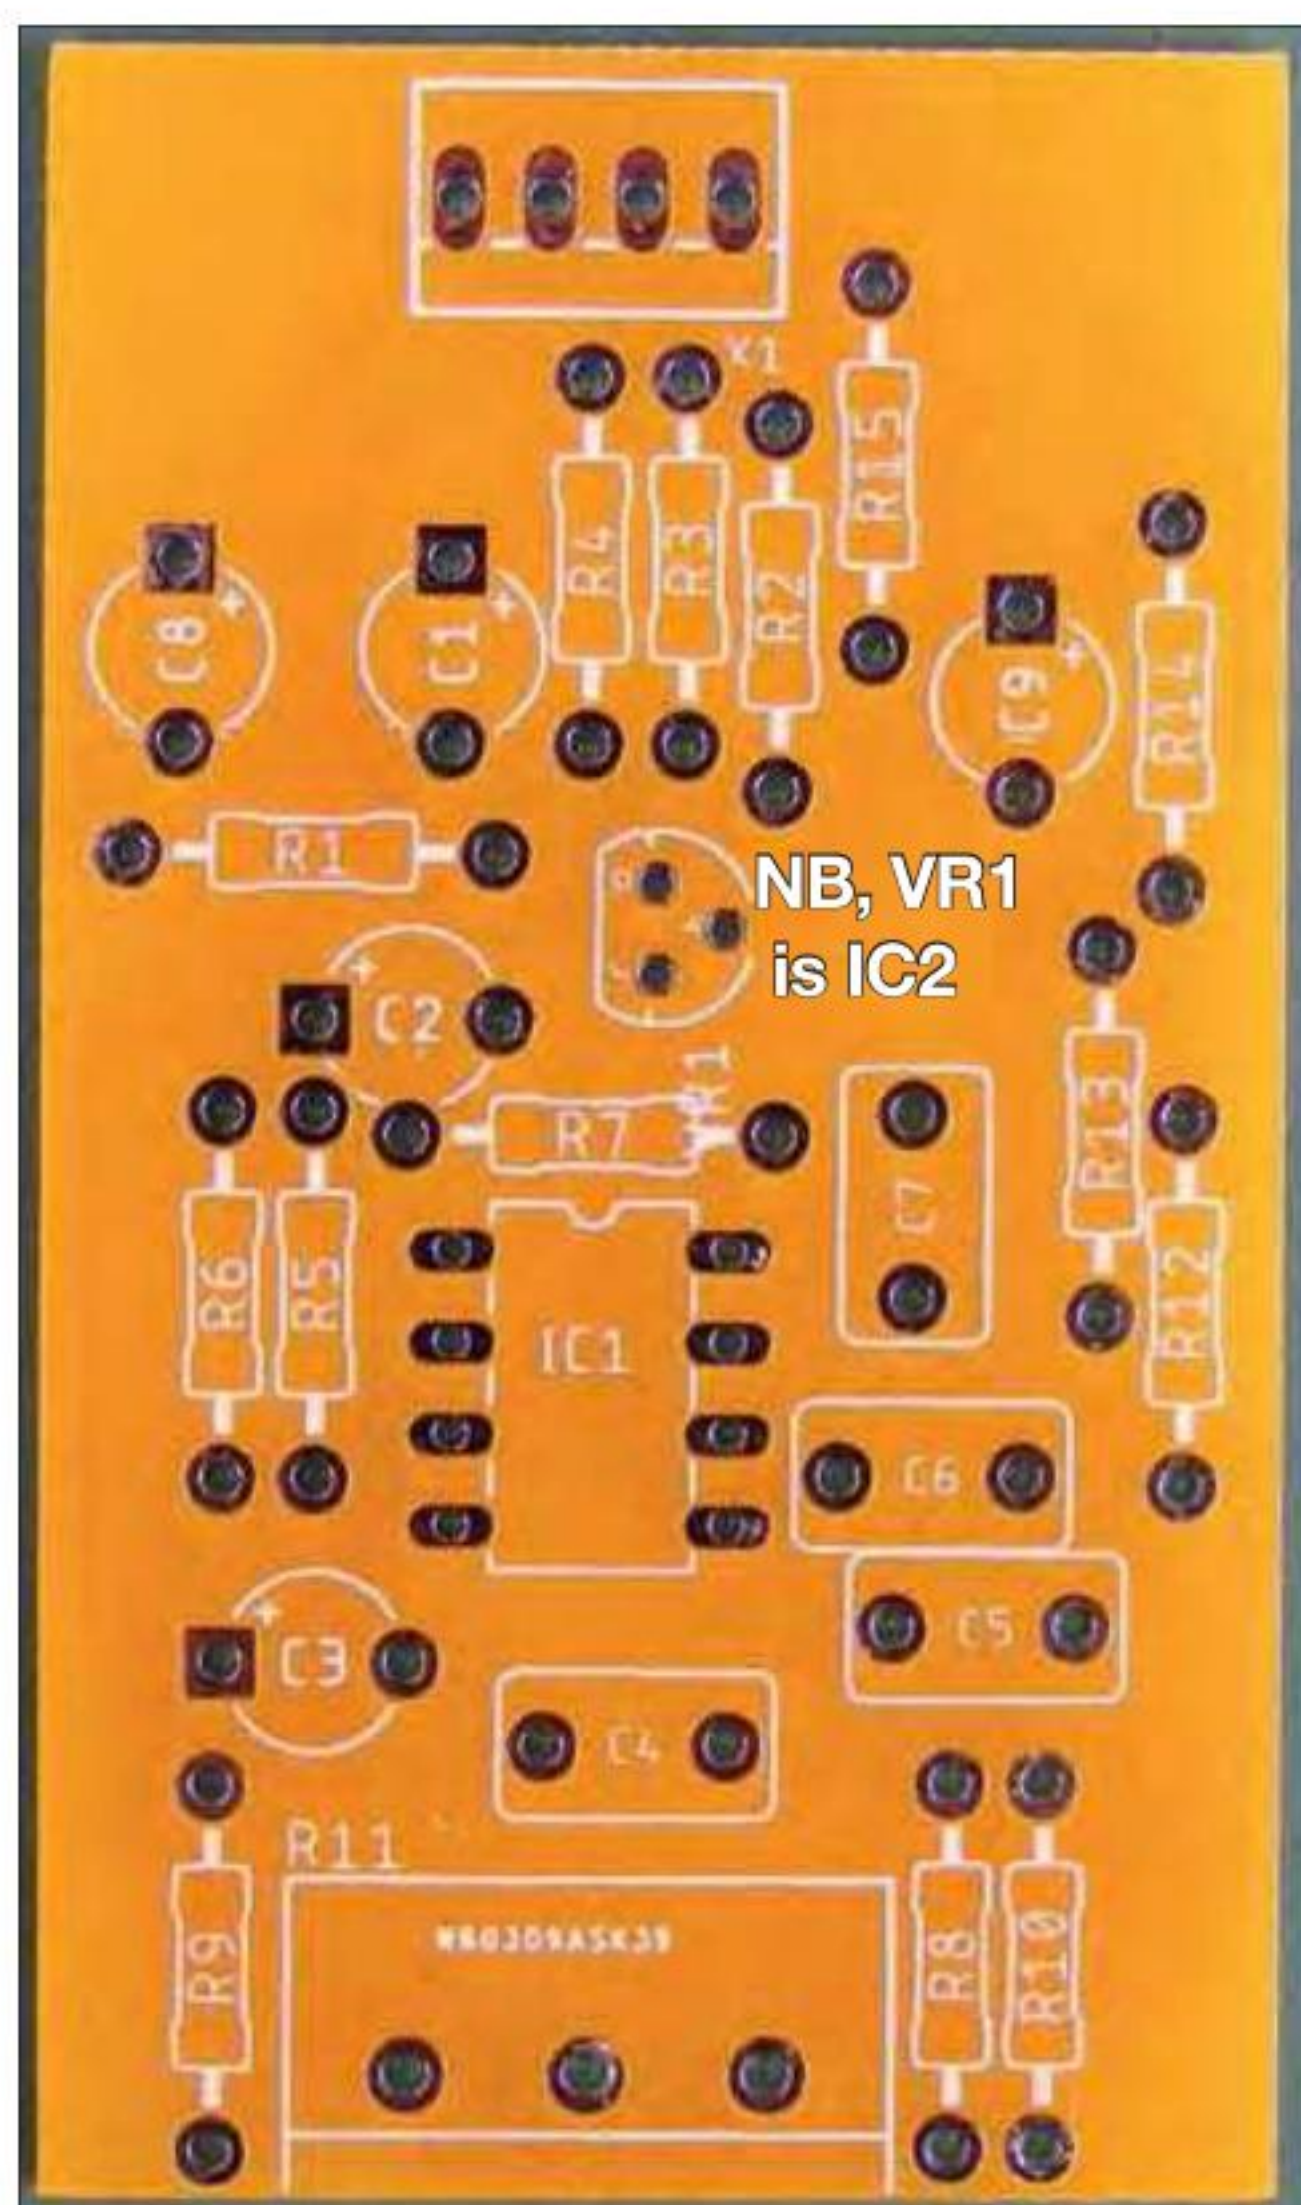
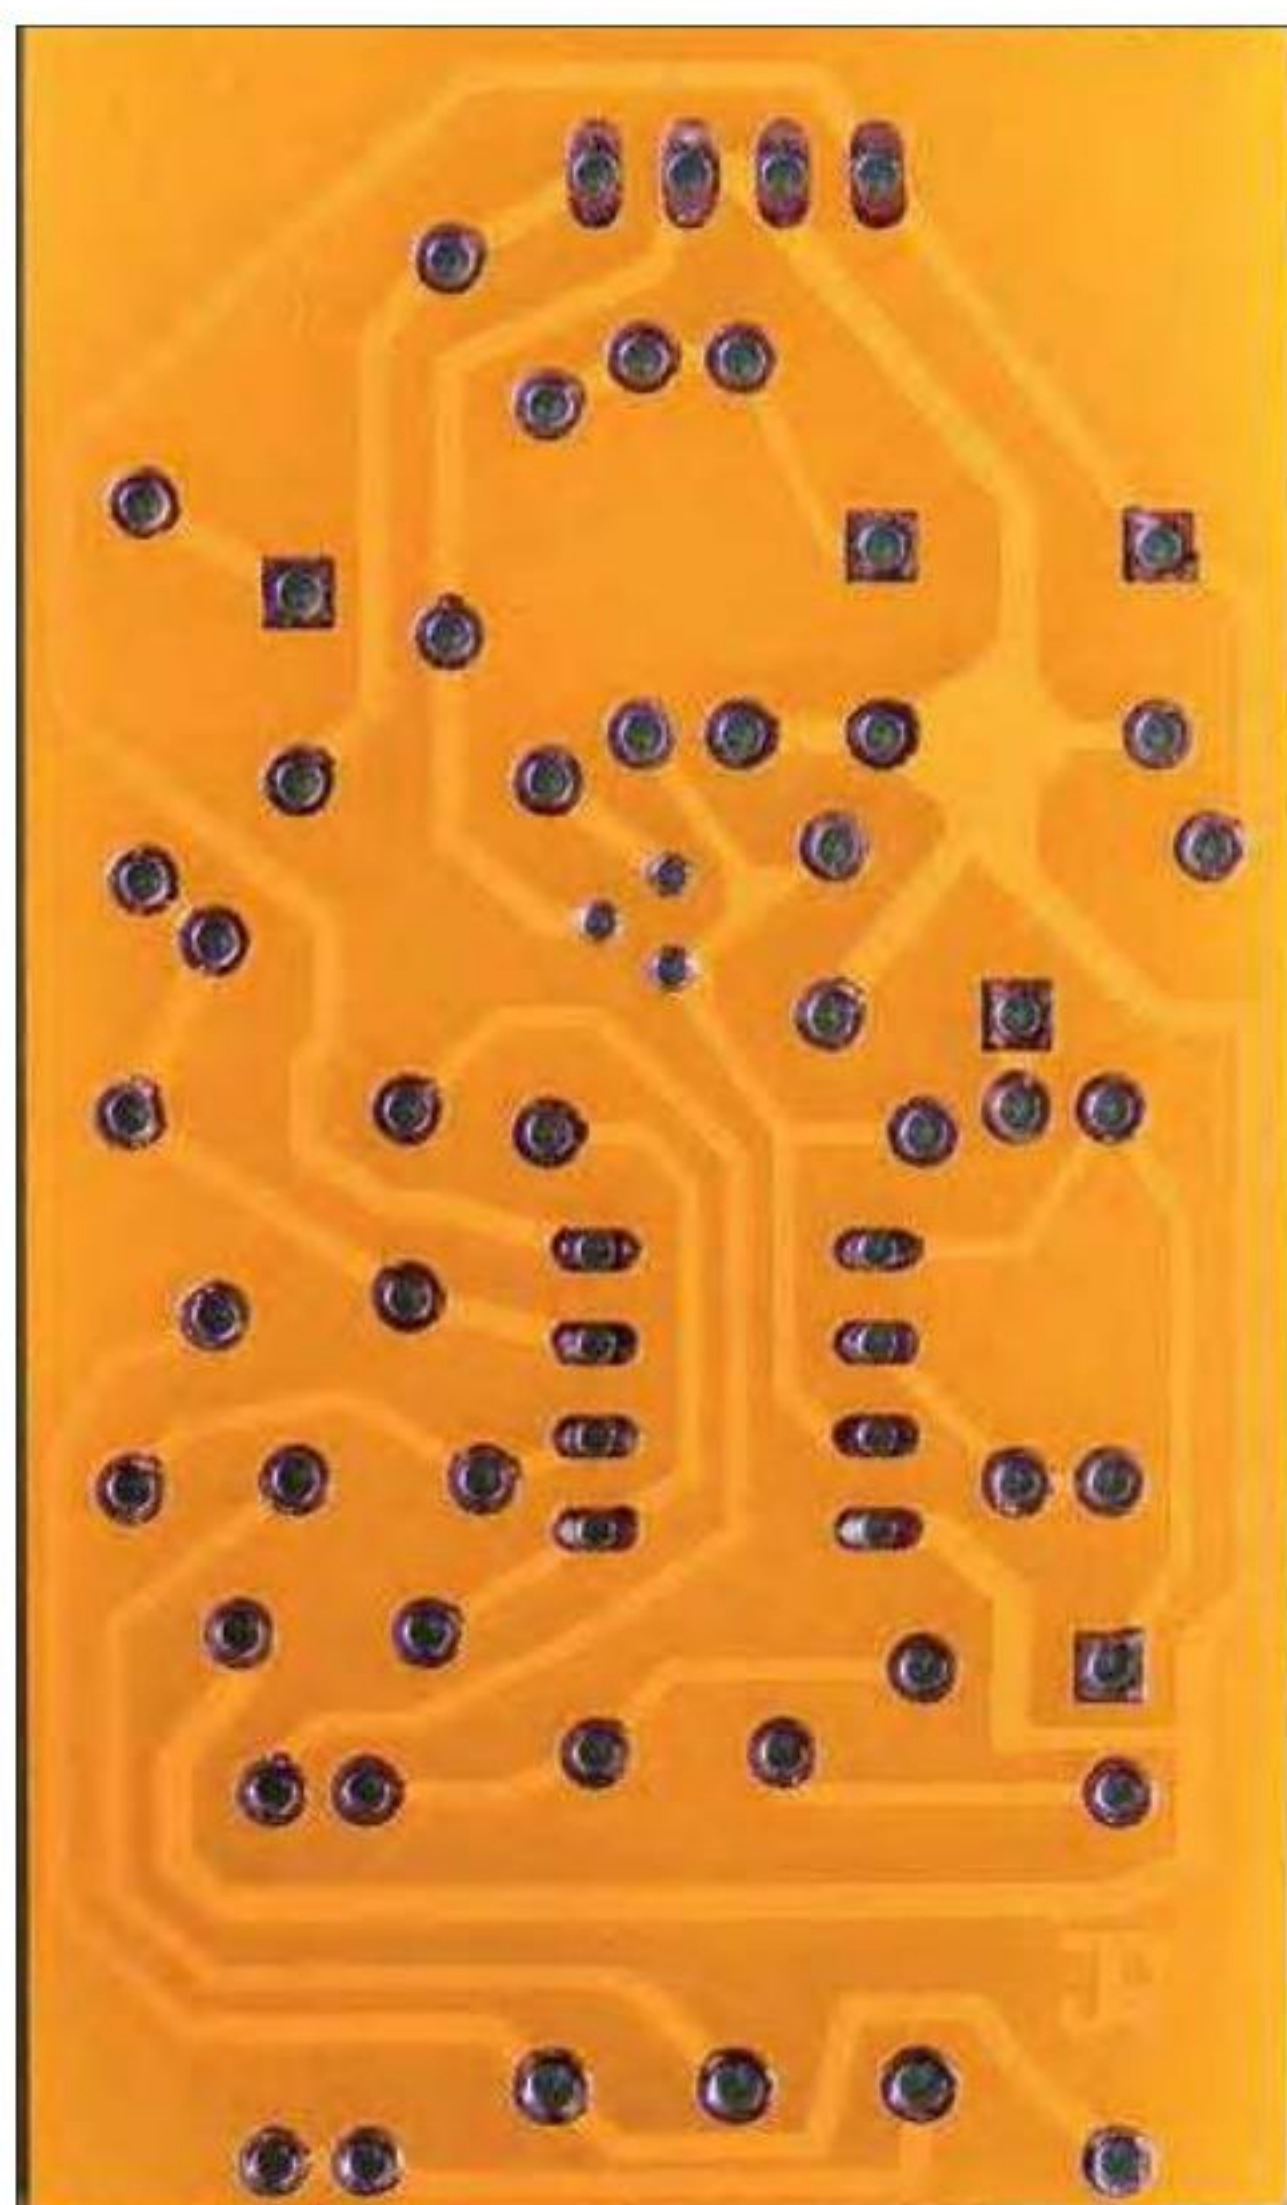

Fig.14. PCB overlay for combined noise generator and tilt control Fig.8 and Fig.12).
Fig.15. PCB track layout. This is single-sided, so easy to etch.
In Fig.7, you can see a pair of wheels, a silicone track and a single motor, positioned on each side of the robot. The two motors used in our robot are referred to as ‘micro metal gearmotors’ and as the name implies, they contain a gearbox (fixed ratio) made from metal – as shown in Fig.8. The gearbox gives the motor more torque than a standard motor – something that is useful in any robot. The motors operate from 6V DC, applied to a pair of contacts located on the non-gearbox end of the motor (see Fig.15). As with any standard DC motor, reversing the voltage will reverse the spin on the motor. Note that in our design, we are driving the motor at approximately 5.2V, which is still enough to provide a decent amount of torque. Each motor is fixed to the chassis by means of a motor mount, as shown in Fig.16. One wheel in each pair is attached directly to the motor’s
2. Two shaft lengths are available, ‘normal’ (single shaft), and ‘extended’ (dual shaft). The extended type (see Fig.15) allow for a shaft encoder disc to be mounted on the back of the extended motor shaft (visit: <http://bit.ly/pe-may20-pololu2>). The encoder disc (magnetic or optical) can then be used with additional
Fig.15. Close-up of the modified 4-way socket soldered to the motor contacts. Note the motor contact marked with ‘+’ needs to be to the left when in the motor mount. Here the ‘extended’ shaft can be seen protruding out the back of the motor.
The PCB overlay is shown in Fig.14 and the track layout in Fig.15. Since the design is single-sided it is suitable for home etching. Eagle files and PCBway ready-made PCBs will be available from the *PE* site and shop as usual. I still get my single-sided boards made at PCBway because of the greater joint reliability afforded by plated-through holes. The finished board is shown in Fig.16. It is small enough to be mounted by means of the pot shaft, but support at the back is needed if the unit is to be moved around.